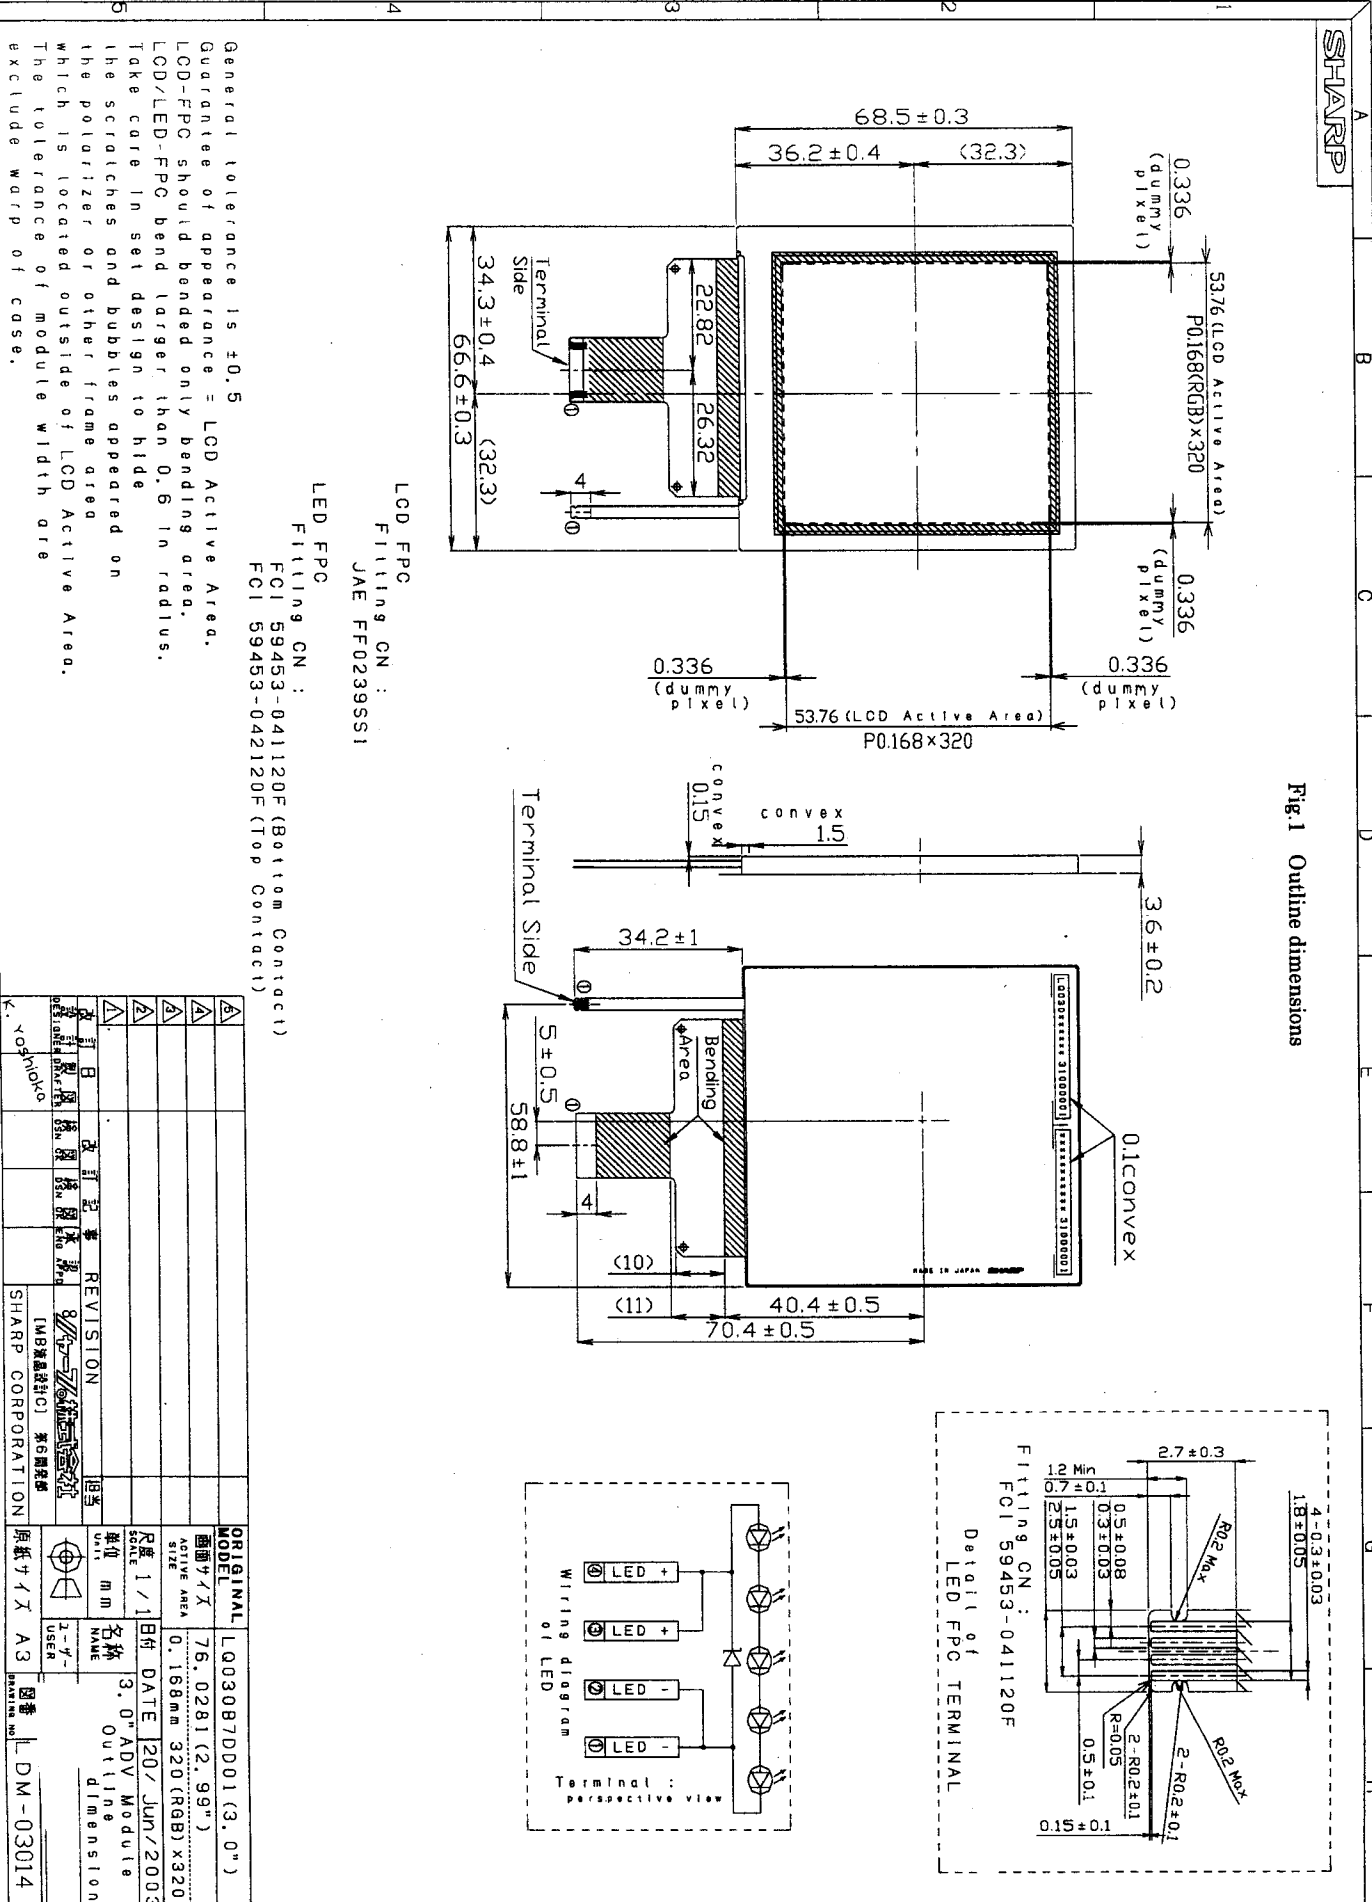

Fig.1 Outline dimensions
See Fig. 1
② Bending endurance of the bending slits portion(See Fig.1) :
The lot number is shown on a label. Attached location is shown in Fig.1 (Outline Dimensions).